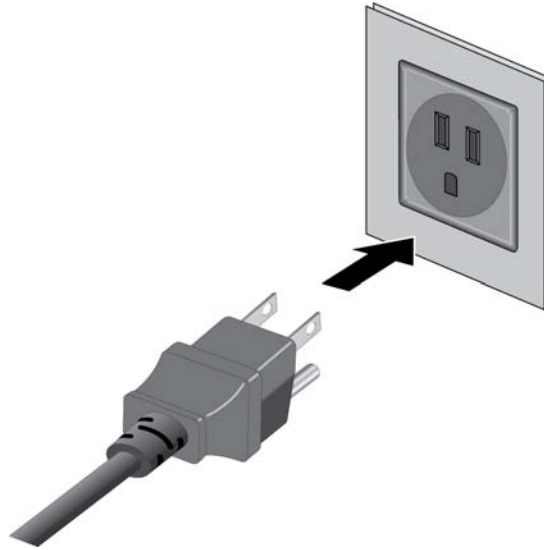

Figure 42. Connecting the Power Cord to an AC Power Source
4. Connect the power cord to an appropriate AC power source. Refer to Figure 42 on page 80.